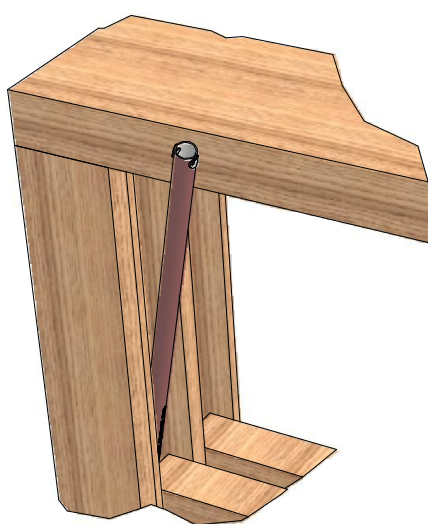

Fig 1
1. If the window is already installed, fully lower the sash before attempting to insert the balance into the recess in the frame (see Fig 1).